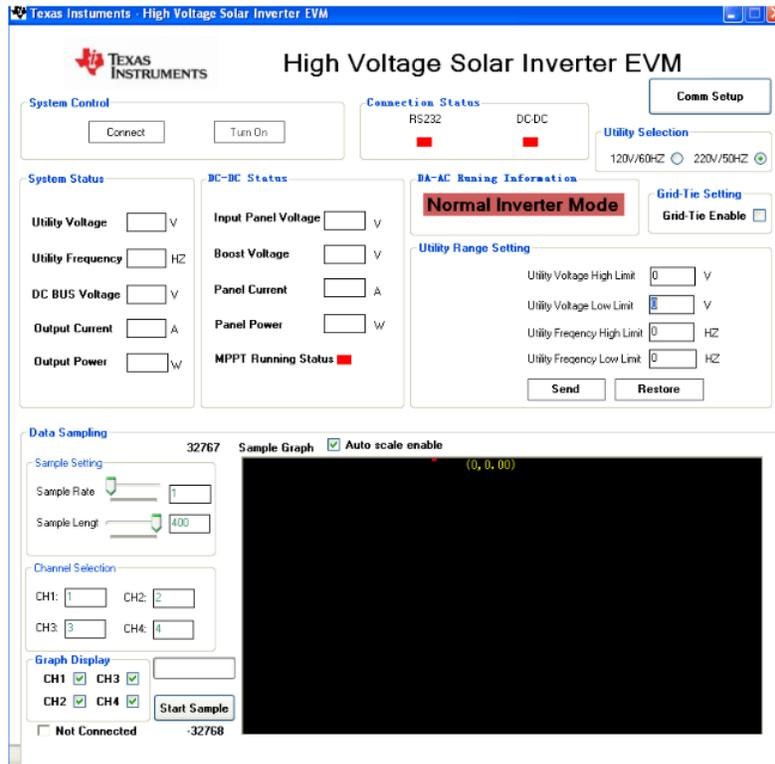

Figure 4. HV Solar Inverter GUI
1. Browse to ..\controlSUITE\development_kits\HV_SOLAR_DCAC\~GUI and double-click on SOLAR-GUI.exe. Figure 4 shows a screenshot for the GUI.